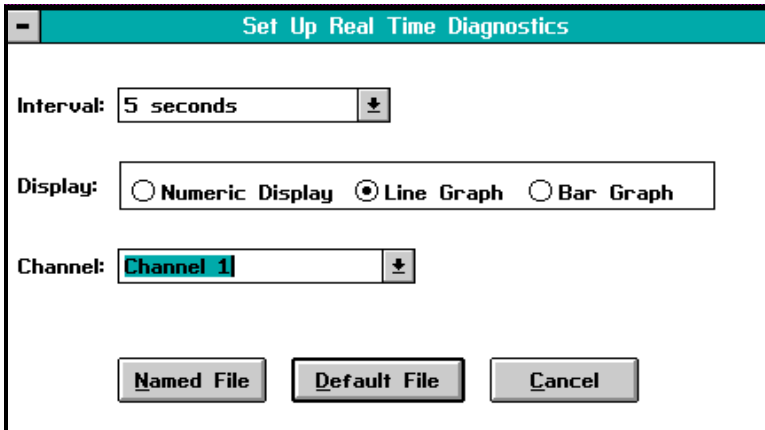

Figure 6-10: Real Time Diagnostics Selection
1. Select the **Log Diagnostics** command (**ALT+R** and **ALT+D**), as shown in Figure 6-10 below.